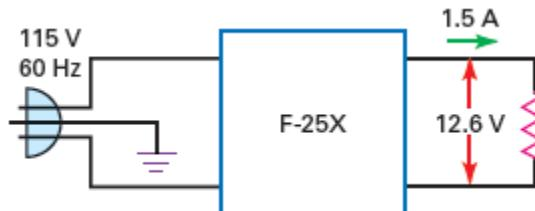

Figure-65 Rating on real transformer
- For instance, Figure-65 shows an F-25X, an industrial transformer whose data sheet gives only the following specifications: for a primary voltage of 115 V ac, the secondary voltage is 12.6 V ac when the secondary current is 1.5 A.
- If the secondary current is less than 1.5 A in Figure-65, the secondary voltage will be more than 12.6 V ac because of lower power losses in the windings and laminated core.